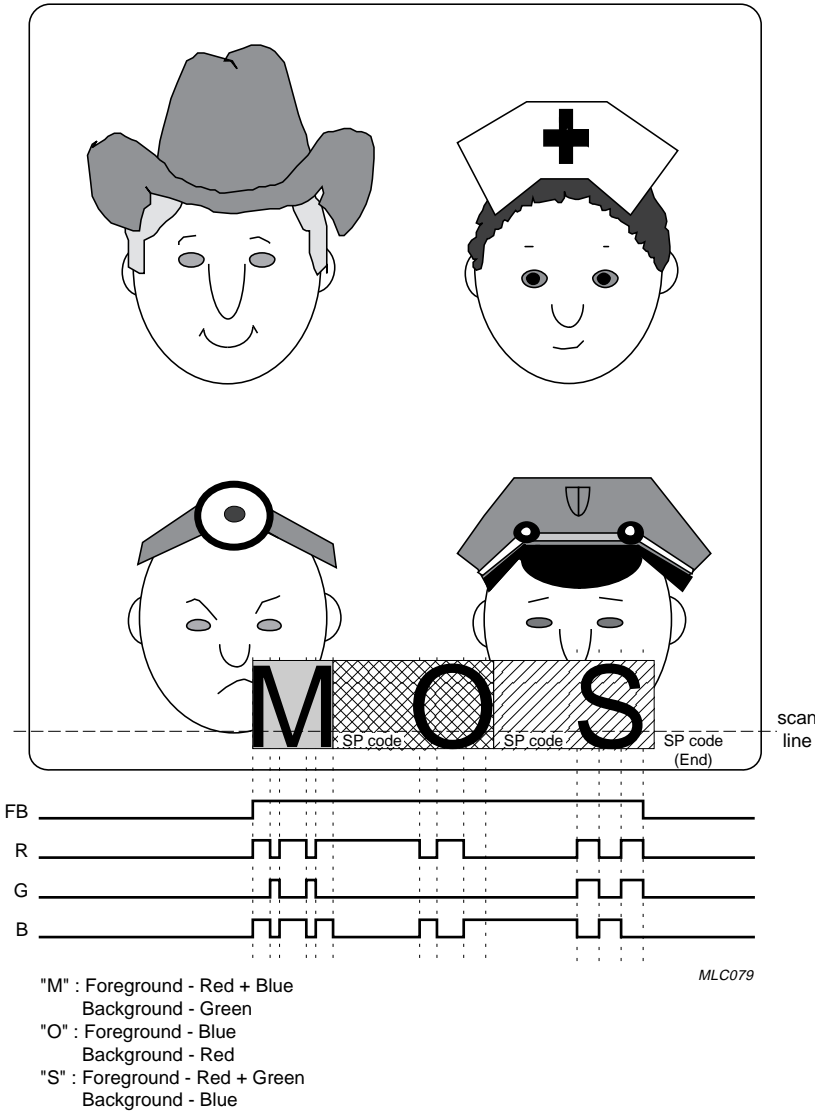

Fig.30 Mode 2: Box shadowing (background) mode.
- In Mode 2: Box shadowing mode. The Space Code is displayed as a transparent pattern with selected background colour. This will also be the background colour of the character following the Space Code. However, when the Space Code is used as an end bit, it will be displayed as a transparent pattern superimposed on the video (see Fig.30). The Carriage Return Code in Mode 2 is also displayed as a transparent pattern superimposed on the video signal.